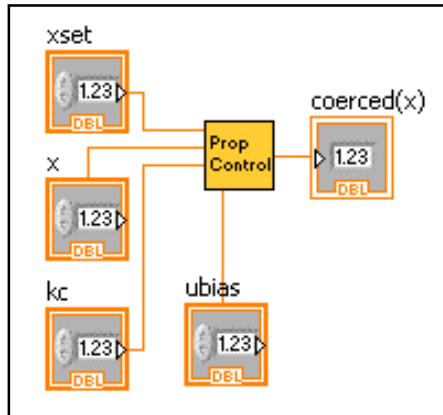

Figure C2.
2. Reduce to subVI and edit icon (see Figure C2).